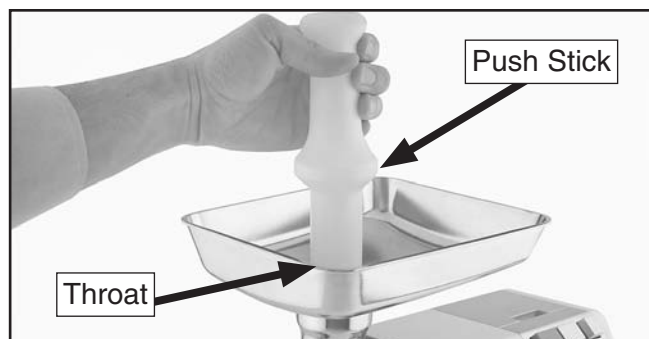

Figure 10. Using push stick to feed meat.
1. Connect the grinder to power, press the ON button, then feed meat into the tray throat using the push stick (see **Figure 10**).